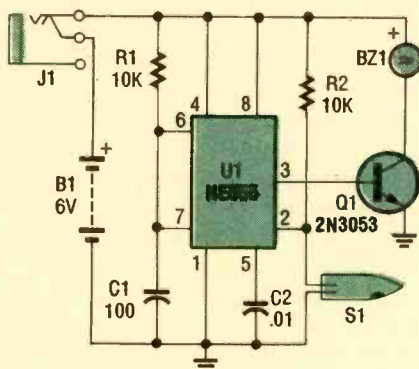

Fig. 1. When pin 2 goes low pin 3 goes high, which switches Q1 on and activates the buzzer for a period of time.
**How It Works.** The alarm is based on a simple timing circuit shown in Fig. 1. Using a switch to disable the unit would make it very easy to turn off, so a miniature three-terminal shorting phone jack (J1) was used as the power switch. When the phone plug is removed, the alarm is set to go off. Unless the thief happens to have a miniature phone jack in his pocket, he cannot disable the alarm.